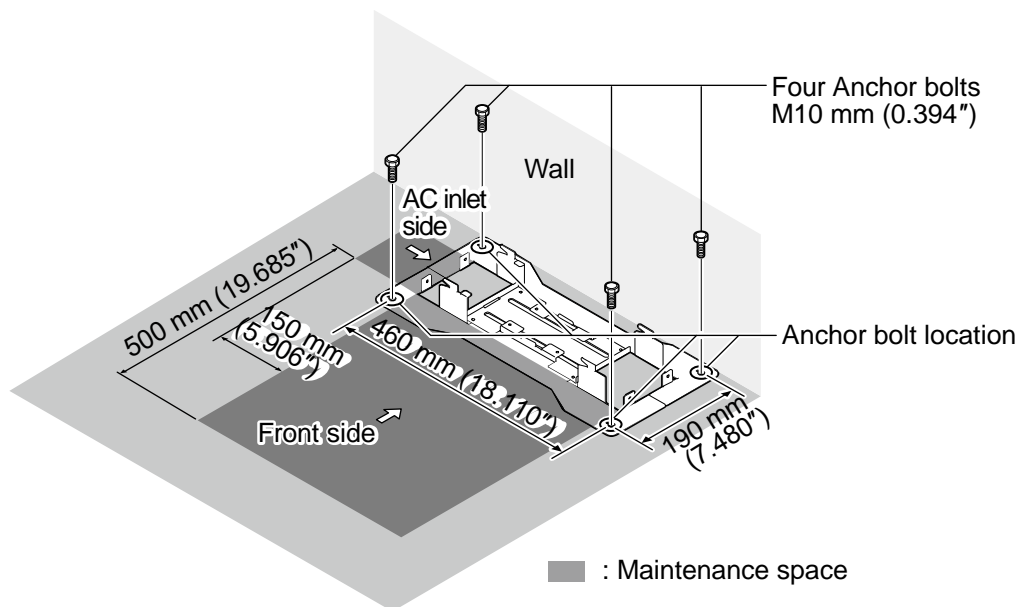

Figure 2-40 Floor-Mount Spacing Guide
2. Refer to Figure 2-40 Floor-Mount Spacing Guide for required spacing before drilling holes for 10 mm (0.394") anchor bolts (locally procured). Mark and drill the four holes required to install the FM/WM Base.